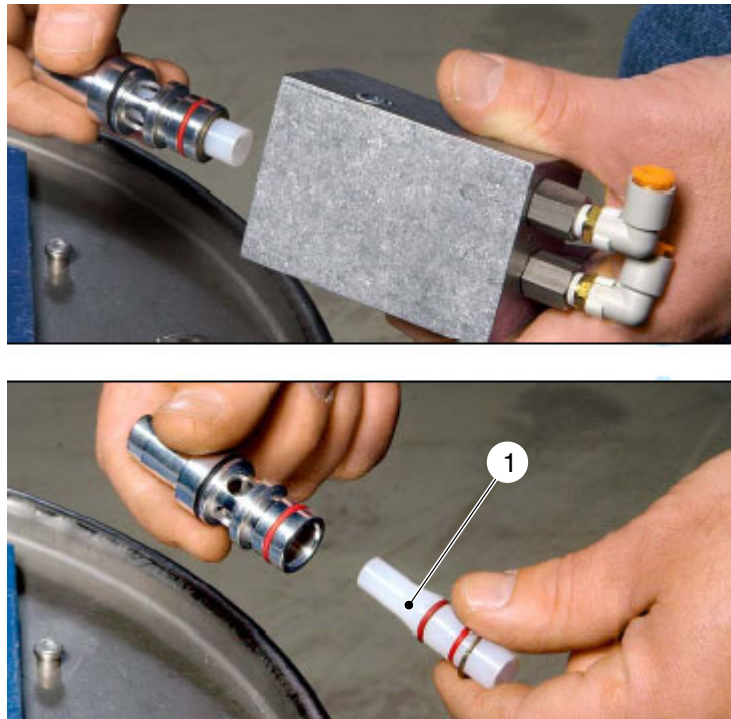

Fig. 5-12
4. Extract the holder from the pump (Fig. 5-12).
5. Extract the Venturi throat from the holder (1, Fig. 5-12).